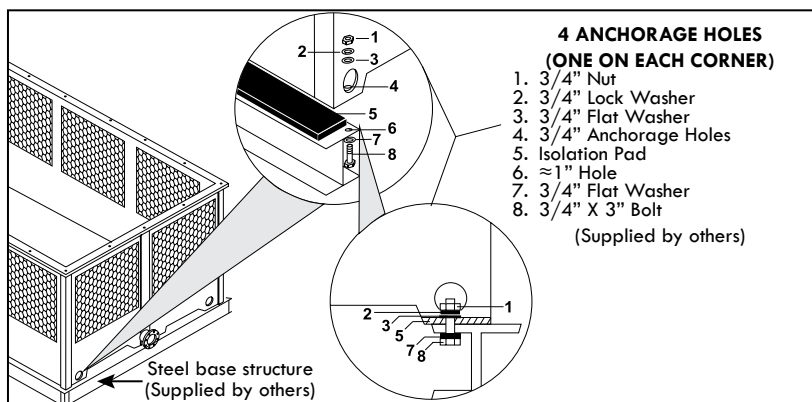

Figure A-47: Typical anchorage for an RTG and RTGTC model.
- H. Place the basin section of the Tower on top of the isolation pad and the base structure; Secure it with the galvanized steel nut and bolt sets (supplied by others) as shown on Figure A-47.